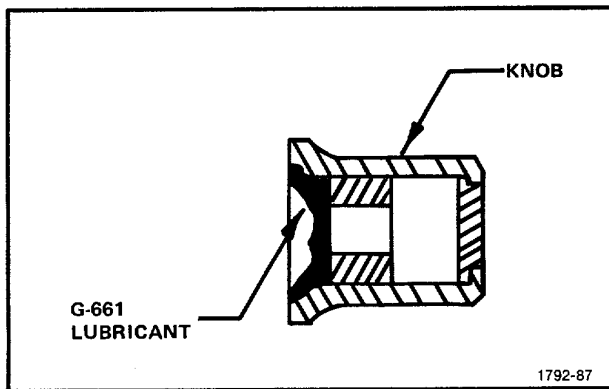

Figure 5-34. Lubrication of FOCUS and INTENSITY control knobs.
29. Install the FOCUS and INTENSITY knobs (see Fig. 5-34)
1. Apply G-661 lubricant to both knobs as shown in Fig. 5-34.